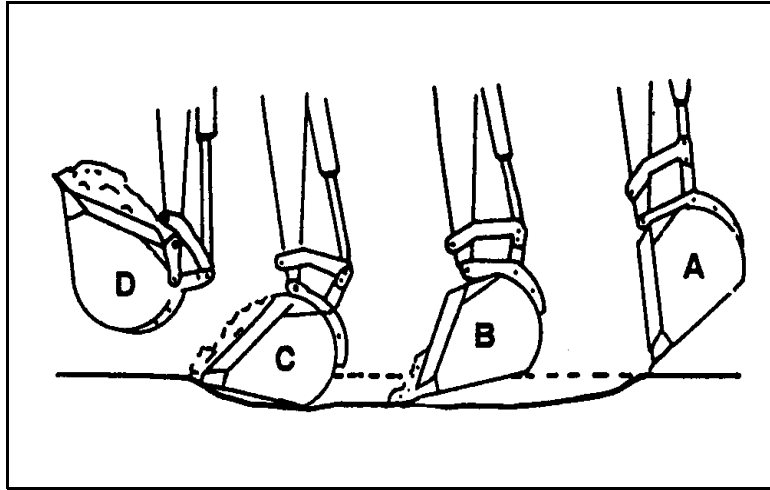

Figure 8-6. Hoe Digging Technique
**Step 1.** Lower the bucket into the digging position (*Figure 8-6 [A]*).
**Step 2.** Roll the bucket until the bucket teeth or the cutting edge is flat on the ground (*Figure 8-6 [B]*).
**Step 3.** Use the stick cylinder to move the bucket toward the machine until it is half full (Figure 8-6 [C]).
**Step 4.** Raise the stick and roll the bucket until it is full (Figure 8-6 [D]).